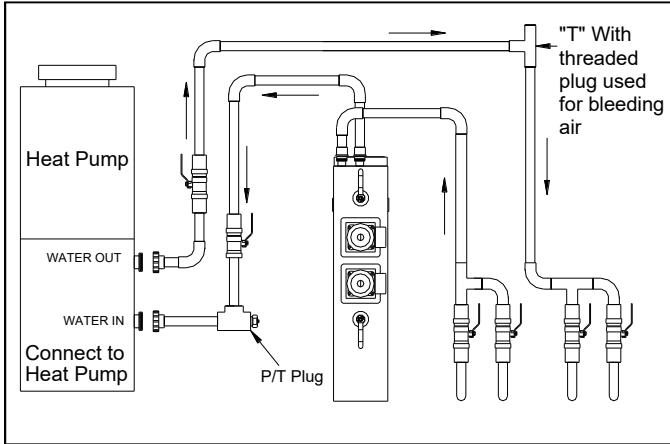

Fig. 3. Recommended Piping Schematic For Maximum Flexibility (Required With Internal Headers)
Fig. 3 Illustrates a recommended piping schematic that can be utilized when an internal header is used and separate purging of the heat pump and the ground loop is not required.
Piping is similar for either schematic with the exception of **Fig. 3** showing all earth loops penetrating the mechanical area of the interior wall. Provide ball valves and P/T ports where indicated. Ball valves shall be the same as pipe size or greater. The flow center should be fastened to the wall with the bracket provided and all piping should be adequately supported. All piping shall be properly sized for the flow rate (GPM) required by the system. Reduce pipe size only at flow center and heat pump as necessary to make connections.
4. Close all loop header valves except one pair (**See Fig. 3**).